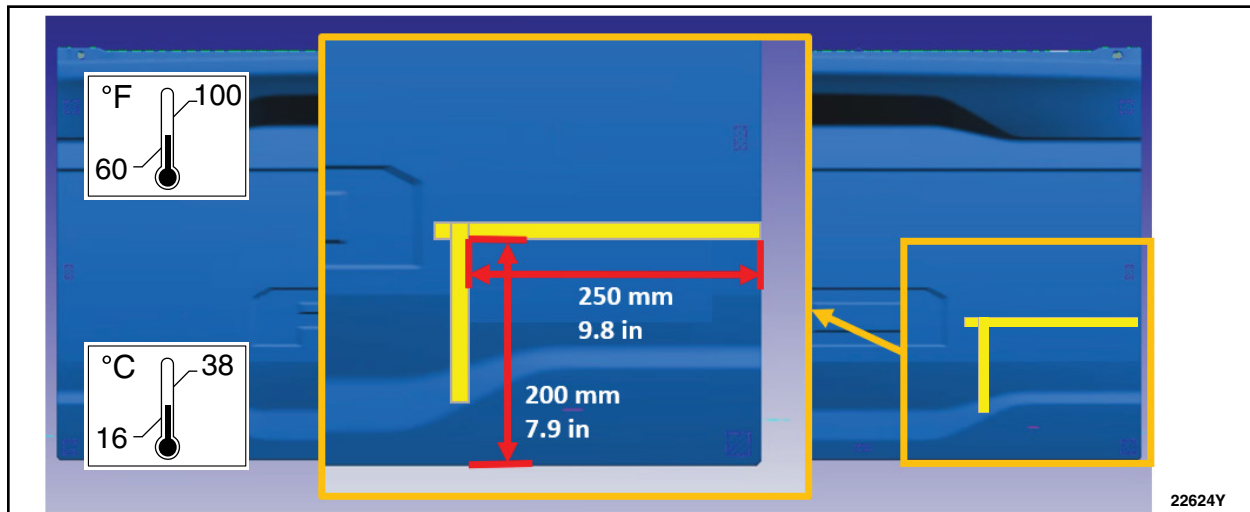

FIGURE 14
48. Measure and apply locating masking tape to the tailgate outer panel. See Figure 14.